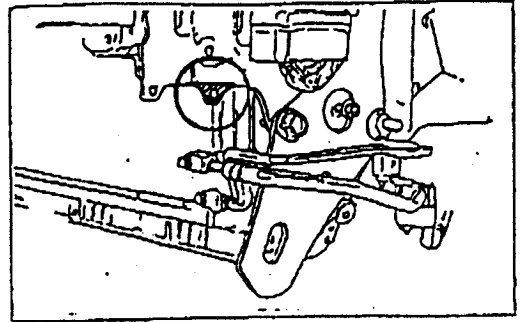

Fig. 3
- (1.) Cut the shaded area on the body, as shown in fig. 3. (near the toe hooks).